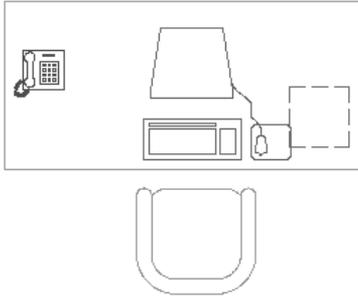

Figure 18-14: A set of office furniture.
1. Open *ab18-f-1.dwg* from the CD-ROM. This is a set of office furniture, as shown in Figure 18-14.